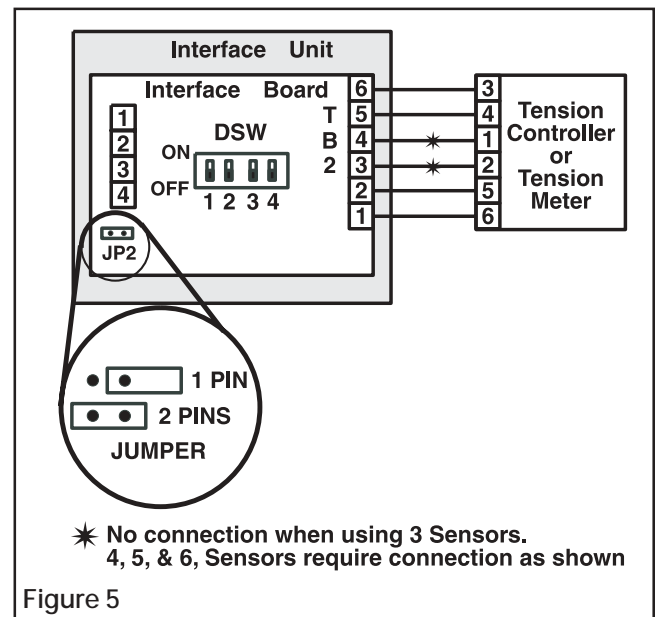

Figure 5
4. Use customer supplied 18 AWG cable to connect the interface unit printed circuit board terminals TB2 numbers 1 - 6 to the Tension Controller (See Fig. 5).
**NOTE:** If the interface unit is used in conjunction with a TC820 Tension Controller connect the provided Jumper across both pins of JP2, otherwise leave the Jumper on 1 Pin of JP2 (See Figure 5).
1. Set Dip Switch **DSW** located on the interface board to the positions indicated depending on the number of sensors being used (See Table 1 and Figure 5).
3. Install calibration weights on each sensing roll (See Figure 5). Secure one end of the rope or cable, making sure the cable or rope passes the sensing roll at the middle of its span. Calibration weights must be of an equal weight and the sum of the weights must be less than the maximum web tension value on the tension indicator, i.e., 100 Lbs., 500 Lbs. etc. For tension indicator values rated in **PLI**, the sum of the weights must be less than the maximum **PLI** times the web width.